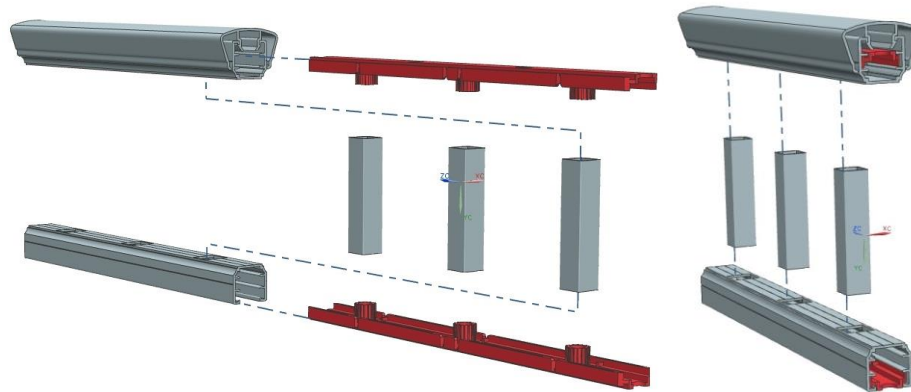
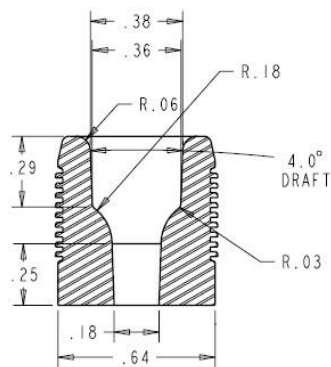

Figure 5 – *Ultra Max & Deck-Over Aluminum Railing System*
Figure 12 – HDPE Connectors for
3.6.3. The *Ultra Max* and *Ultra Deck-Over* guardrails utilize a 1-1/8 inch wide by 3/4 in high HDPE strip inserted into the *Ultra Max* Rail A top & inverted Rail A bottom routed rail profiles. The connectors on the HDPE strip drop through routed holes in the rail allowing the balusters to friction connect to the HDPE strip. See Figure 5 which shows the HDPE insert and its location in the routed aluminum railings.
5.2. Infill aluminum balusters are inserted onto 0.66 inch diameter HDPE plugs for the *Ultra Advantage*, *DekPro Prestige*, and *Coastal Aluminum* railing systems. See Figure 12. For the *Ultra Max* and *Ultra Deck-Over* railing systems, the balusters are installed onto a 1-1/8 inch wide by 3/4 inch high HDPE strip inserted into the top and bottom routed rails. See Figures 5.